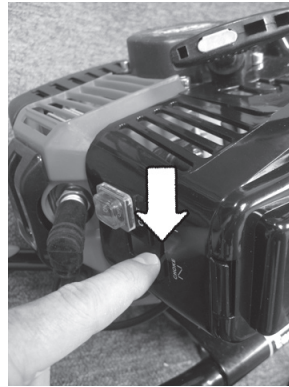

Figure 1
1. Before removing the air filter cover, move the choke lever to the choke position. **(Figure 1)**